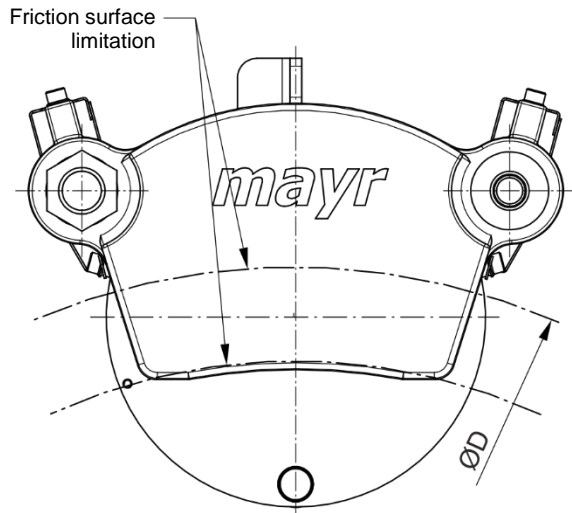

Fig. 7: Type 894.5/6 \_ \_ \_ \_ 2
4)  $D$  = brake disk diameter (Fig. 7)